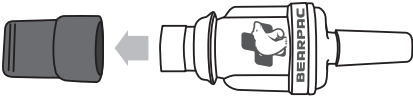

Fig. 1
1. Remove and discard catheter valve cap from catheter valve. (Figure 1)